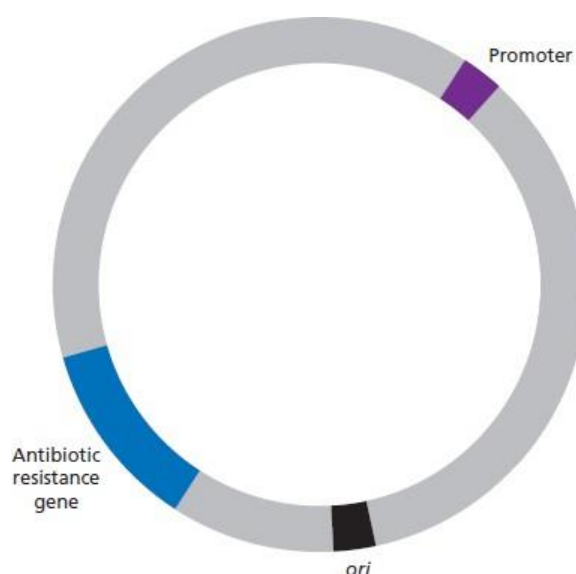

Figure C.1 A plasmid vector with 3 of the desirable characteristics shown.
Many bacteria carry two forms of DNA: (1) a single chromosome made up of a large DNA molecule that contains all the information needed by the organism to survive and reproduce, and (2) plasmids, which are small circular DNA molecules, ranging in size from 1,000 to 200,000 *base pairs* that are present in multiple copies, separate from the chromosomal DNA. Plasmids are vectors: that is vehicles for carrying DNA sequences from one organism to another. In nature this happens during bacterial conjugation. For a plasmid to be useful in genetic engineering it needs to have several features (figure C.1):